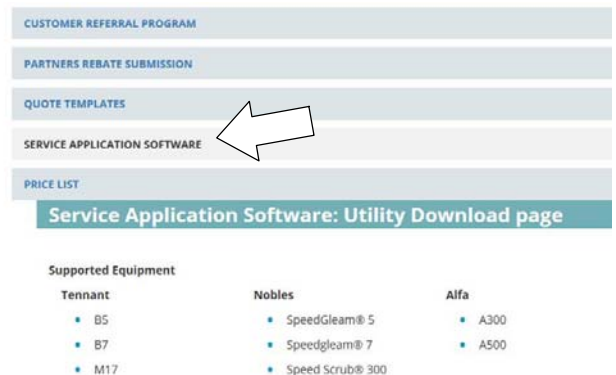

Fig. 24
3. Click on the **“SERVICE APPLICATION SOFTWARE”** link as shown below (Figure 24).